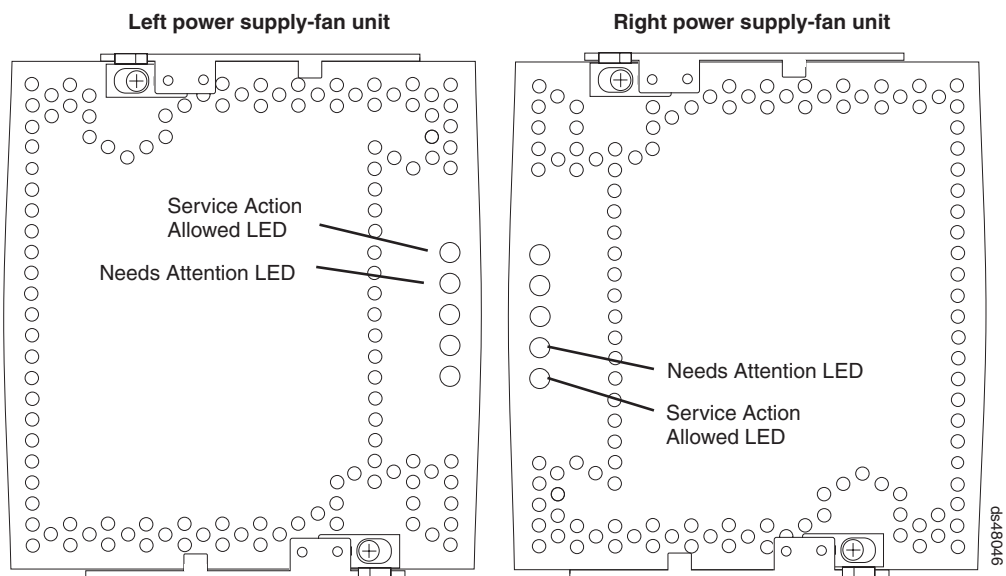

Figure 93. Power supply and fan unit LEDs
4. Locate the failed power supply and fan unit by checking that the power supply and fan unit Needs Attention LED that is turned on. (Figure 93 shows the LEDs on the power supply and fan unit.)
5. Is the Service Action Allowed status LED turned on? (Figure 93 shows the location of the Service Action Allowed status LED on the power supply and fan unit.)